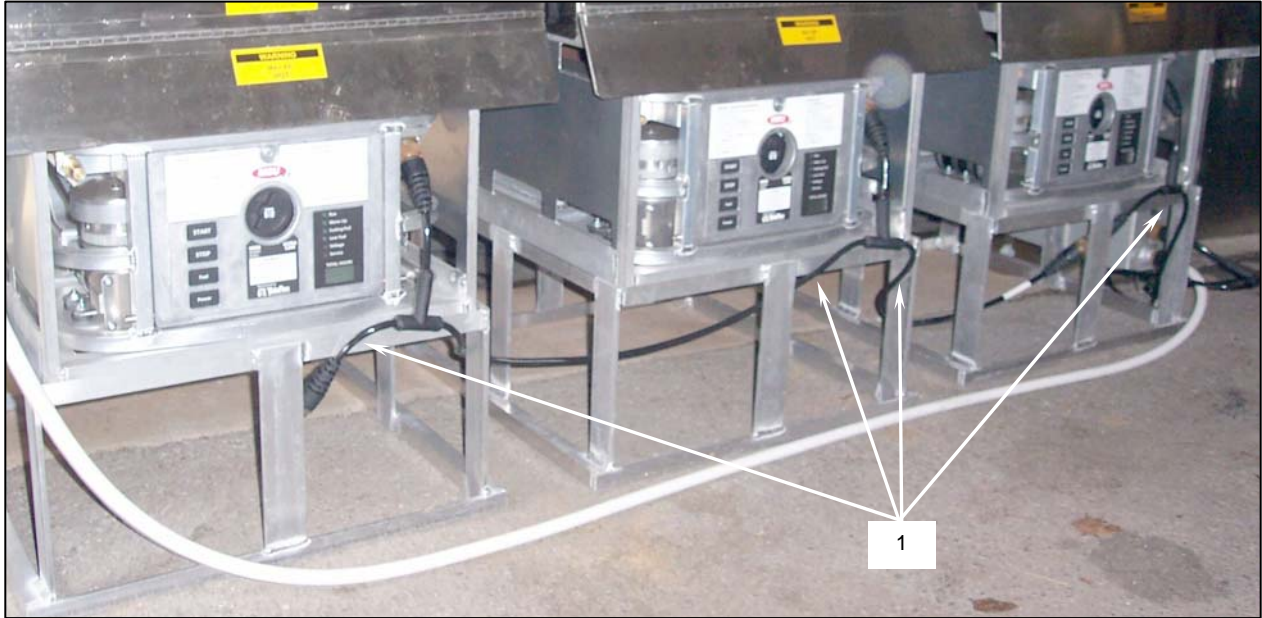

Figure 23. Cable Drip Loops.
- u. Make sure that the cable at each connection is lower than the connection (**Figure 23, Item 1**), creating "drip loops". Drip loops allow water that may fall on the cables or condensation that may form on the cables to run down the cables and away from the connections.